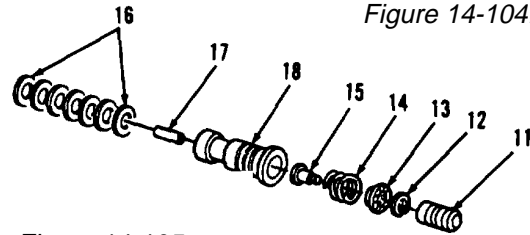
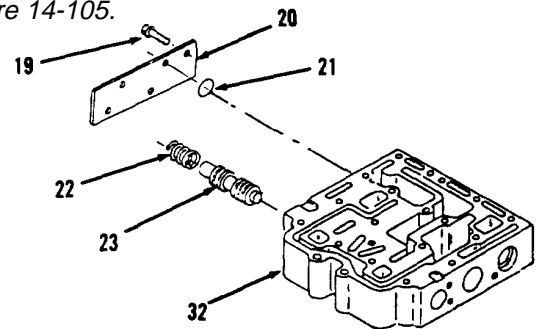
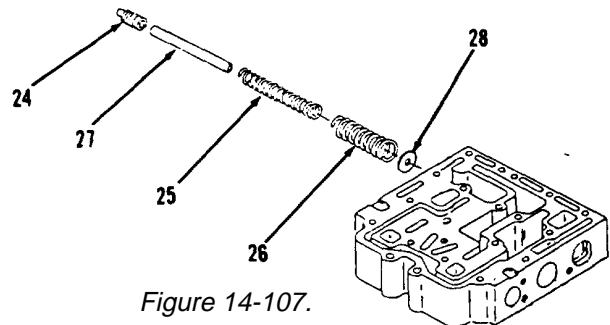

Figure 14-105.
Figure 14-106.
Figure 14-107.
9. Remove slug (11) from spool (18, Figure 14-105).
10. Compress spring (14) on spool (18) and using pliers, remove retaining ring (12).
11. Remove retainer (13), spring (14) and plunger (15).
12. Remove seven spacers (16), pin (17) from spool (18).
13. Remove five bolts (19) and cover (20) from body (32, Figure 14-106).
14. Remove and discard preformed packing (21) from cover (20).
15. Remove spring (22) and spool (23) from body (32).
16. Remove piston (24), springs (25 and 26), spacer (27) and six spacers (28, Figure 14-107).